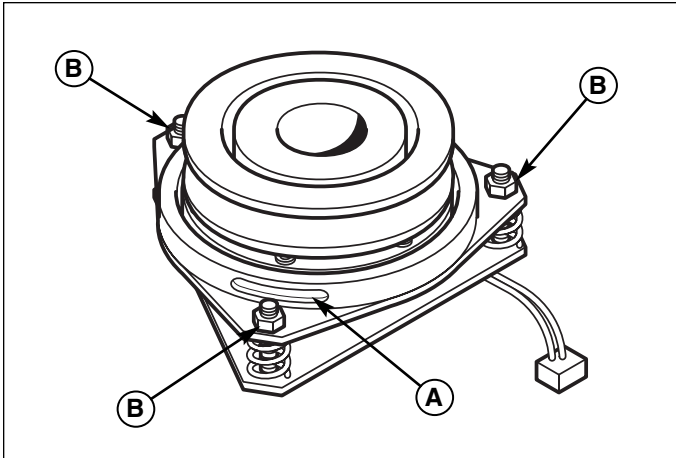

Figure 13. PTO Clutch Adjustment
2. See Figure 13. Note the position of the 3 adjustment windows (A) in the side of the brake plate and the nylock adjustment nuts (B).
4. Alternately tighten the adjustment nuts (B, Figure 13) until the rotor face and armature face just contacts the gauge.